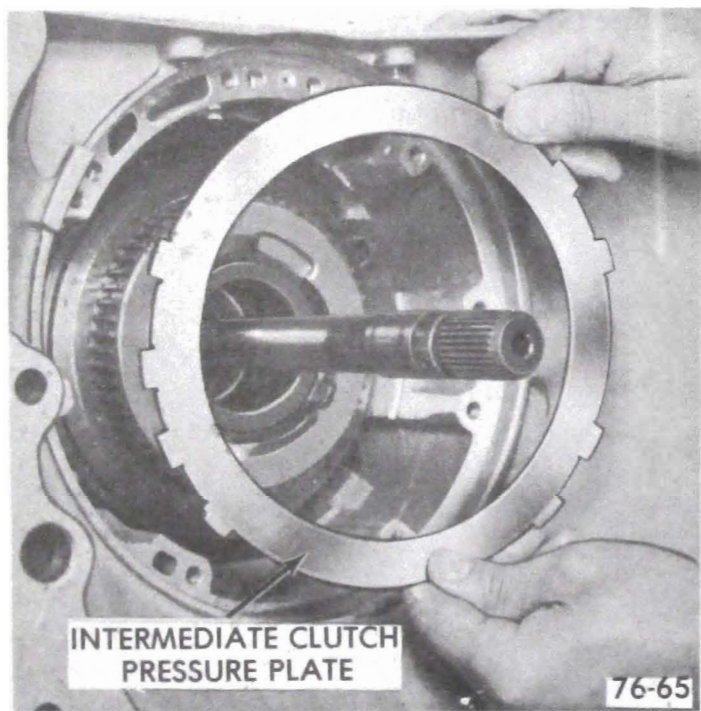

Figure 75-95
4. Remove intermediate clutch pressure plate. See Figure 75-95.